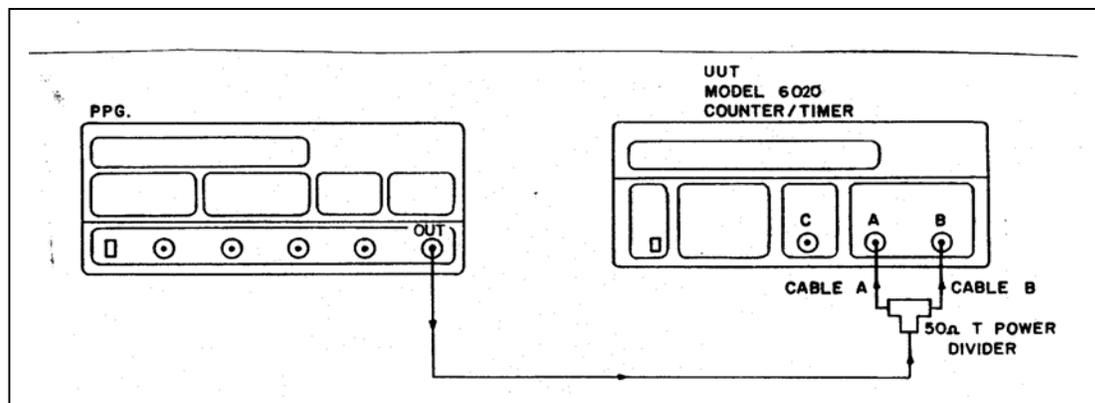

Figure 5-9. Pulse A, T.I A to B and Averaged Test Set-up.
1. Connect the test equipment as described in Figure 5-9. It is essential that both cables to channels A and B are exactly equal in length.